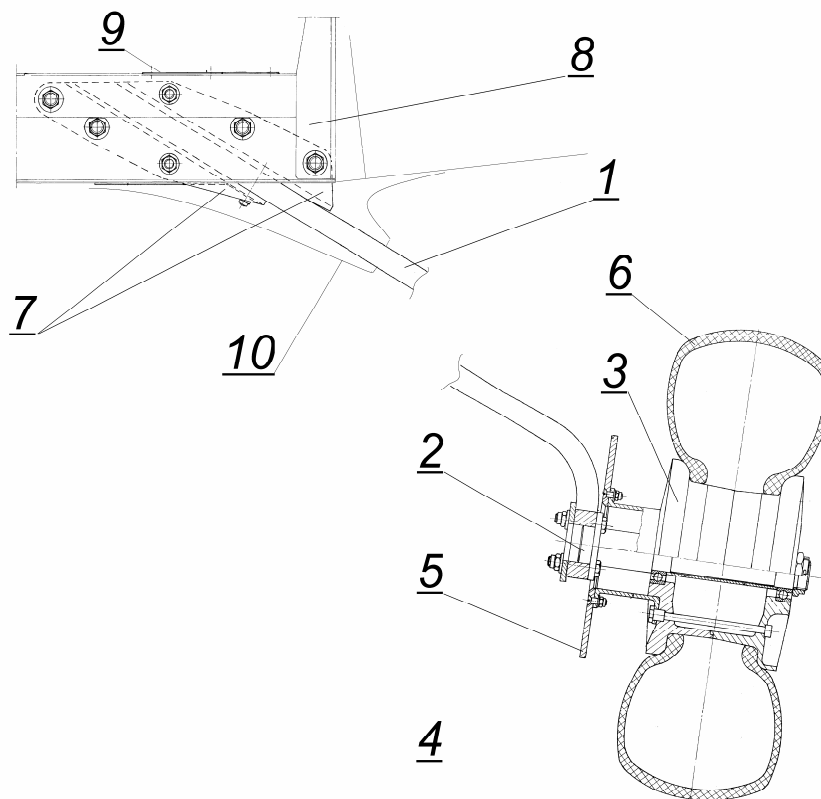

Figure 10-3 Main landing gear
10.2 MAIN LANDING GEAR (see Figure 10-3)